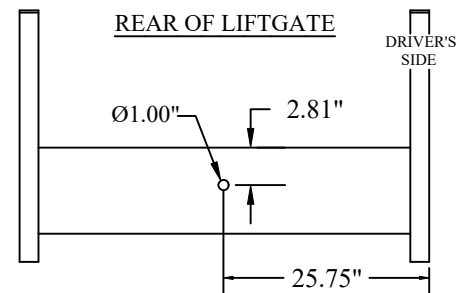

Figure 6: Spare tire access hole location.
3. **Drill** a 1" hole in the back of the mainframe (Figure 6).